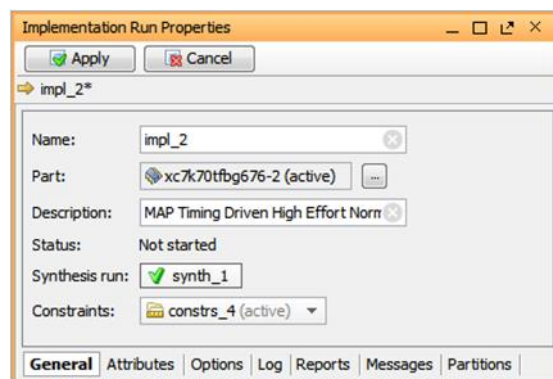

Figure 52: Implementation Properties
The Implementation Properties view displays the properties of the selected run, as shown in FIGURE 52. If the Properties view is not open, you can use the **Window > Properties** command to open it.
7. In the Implementation Properties view, click the **Apply** button as shown in FIGURE 52.